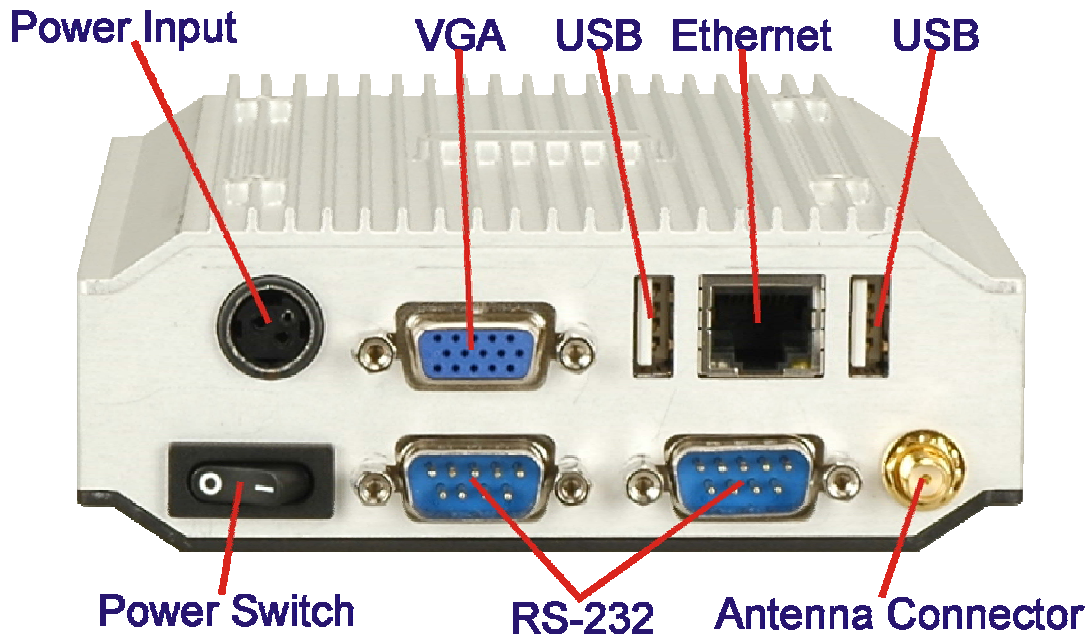
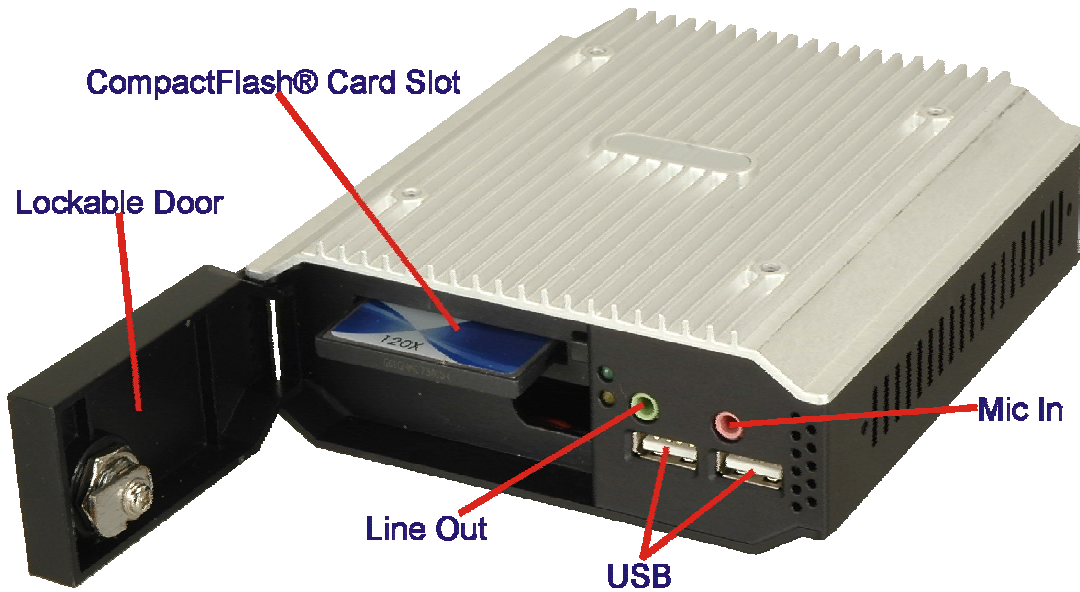

Figure 4-2: Peripheral Connectors (Rear)
Figure 4-3: Peripheral Connectors (Front)
CN Location: See Figure 4-2
- CN Location:** See Figure 4-2
- CN Location:** See Figure 4-2 and Figure 4-3
CN Location:	See Figure 4-2